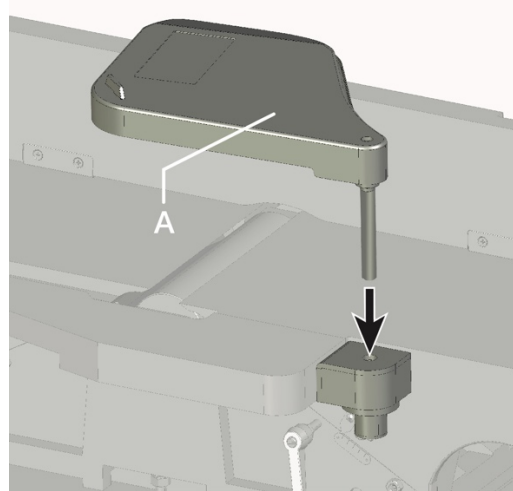

Figure 7-16
Refer to Figures 7-16:
1. Place cutterhead guard (A) into mounting hole as shown in Figure 7-16.